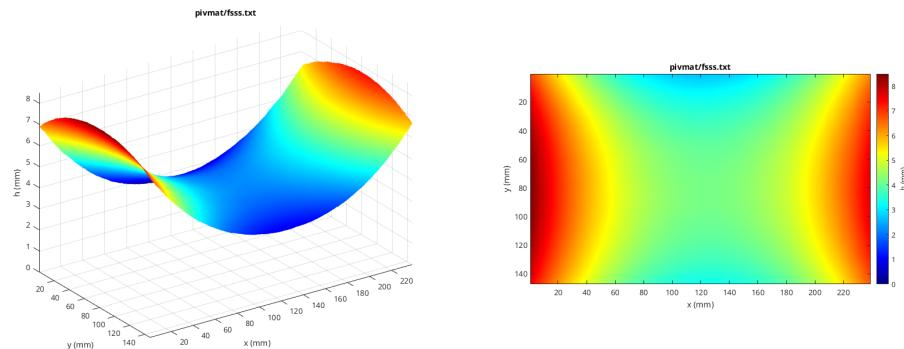

Figure 3: No Image Registration (two images 20s apart)
- Any ideas as to why figure 3 has a saddle shape? It seems too defined to just be a coincidence.